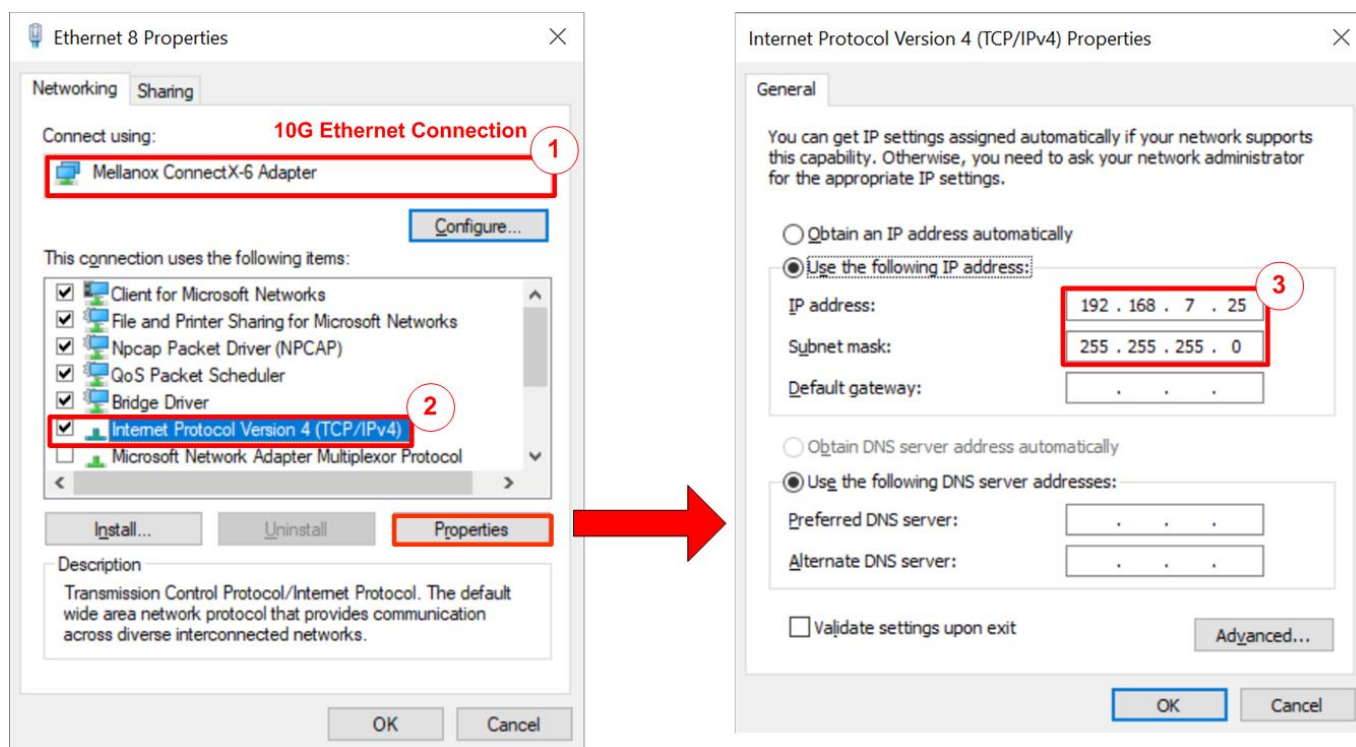

Figure 3-1 Setting IP address on Windows OS
- 1) Open the Local Area Connection Properties of the 10G Ethernet connection, as shown in the left window of Figure 3-1.
- 3) Set the IP address to 192.168.7.25 and the Subnet mask to 255.255.255.0, as shown in the right window of Figure 3-1.